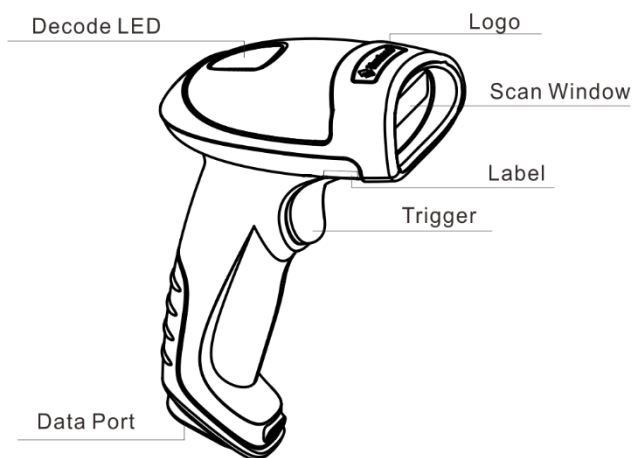

Fig. 1-1
1. Plug the RJ50 connector into the data port (see Fig.1-1) on the scanner.